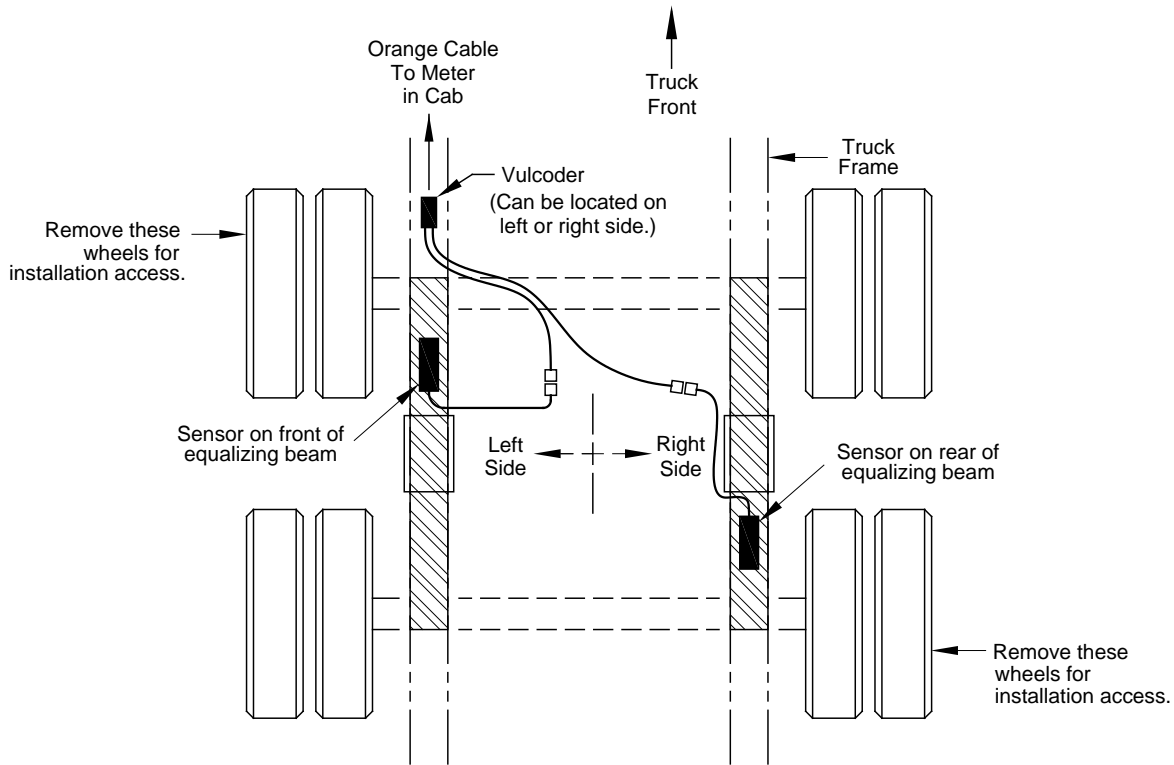

Figure 1
3. For the best scale system accuracy, one sensor should be mounted on the **forward** arm of one suspension beam. The other sensor should be mounted on the **rear** arm on the opposite beam, as shown in Figure 1.